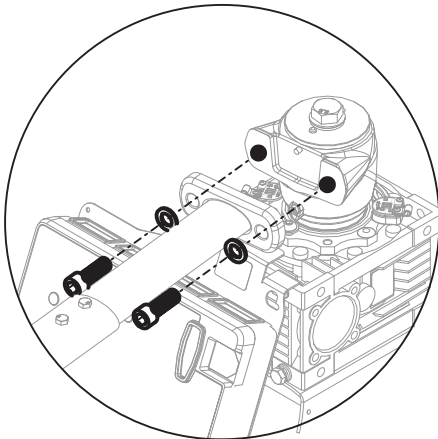

Figure 22. Remove the Operator Arm
1. Remove the screws holding the operator arm to the taper clamp (Figure 22) and set the arm assembly to the side.